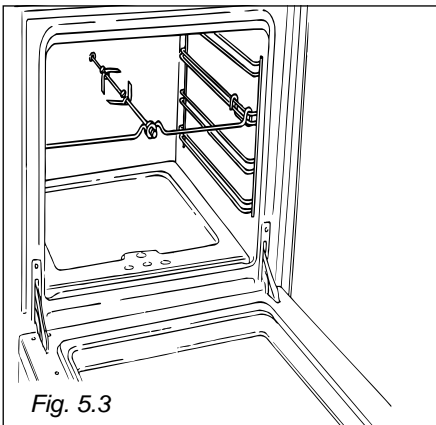

Fig. 5.3
ROTISSERIE (Fig. 5.3)
- Insert the tray into the lowest rack holders of the oven and insert the rod support into the intermediate rack holders (fig. 5.3).